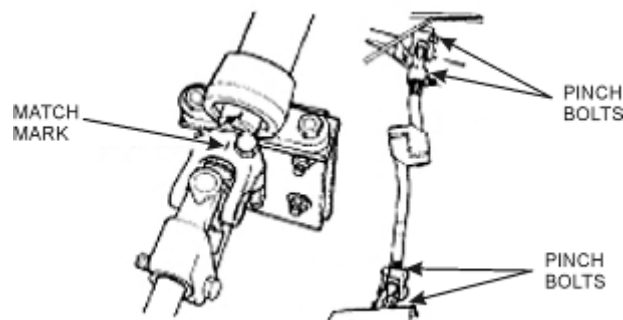

Figure 140 Steering Column Alignment
- b. Match mark the relationship of the steering column inner shaft to the top universal joint (Figure 140).